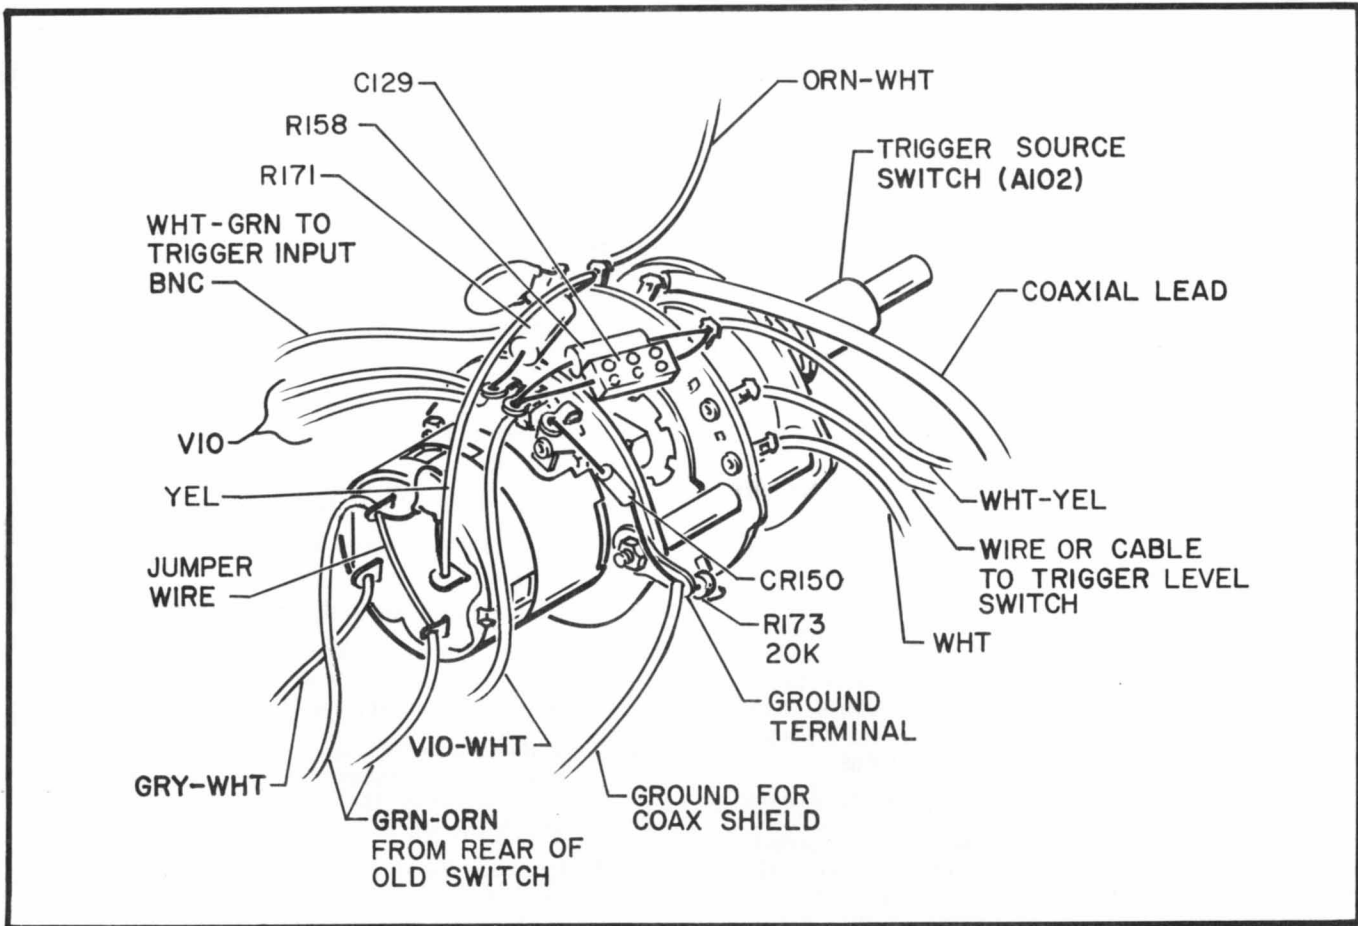

Figure 1. Modification Locations
Step 12: Solder all remaining wires removed in Step 6 and both of the new wires of Steps 10 and 11, as shown in Figure 1.